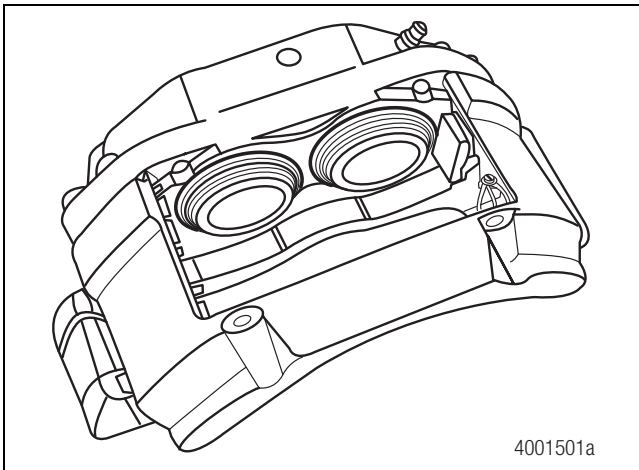

Figure 3.3
2. Remove the caliper assembly by removing the four bolts attaching the carrier to the axle and place it on a suitable workbench. Figure 3.3.